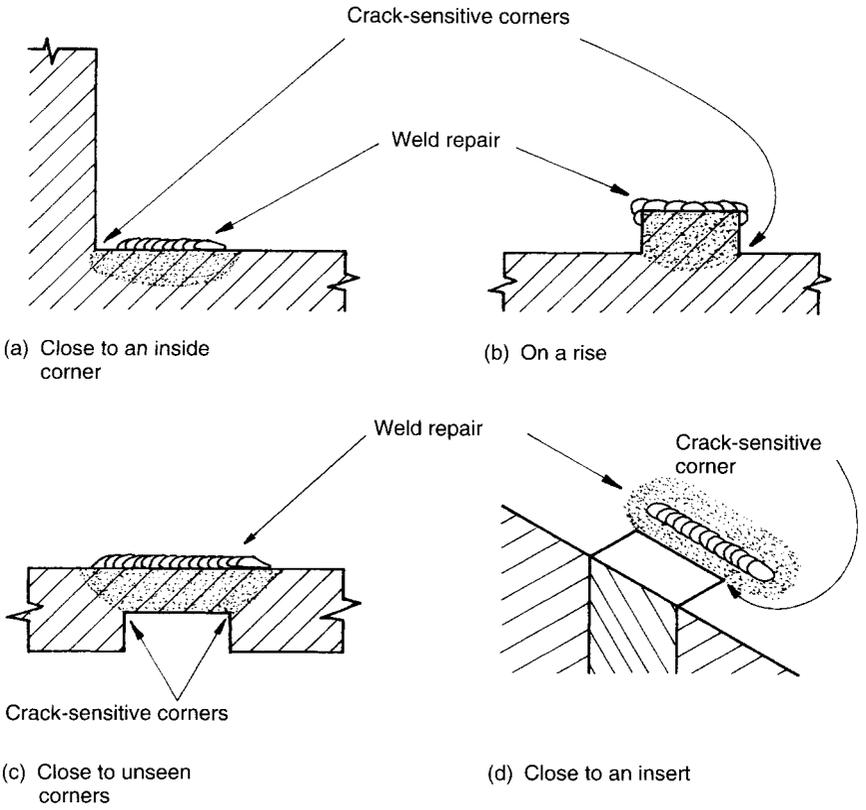

Fig. 6.11
Even with a recommended pre-heat, you can run into problems because certain areas on a tool can be more sensitive to cracking than others. The main problem areas tend to be close to inside corners; see Fig. 6.11.
**Problem 6** Tools that have inside corners with little or no radius, see Fig. 6.11 and 6.13.